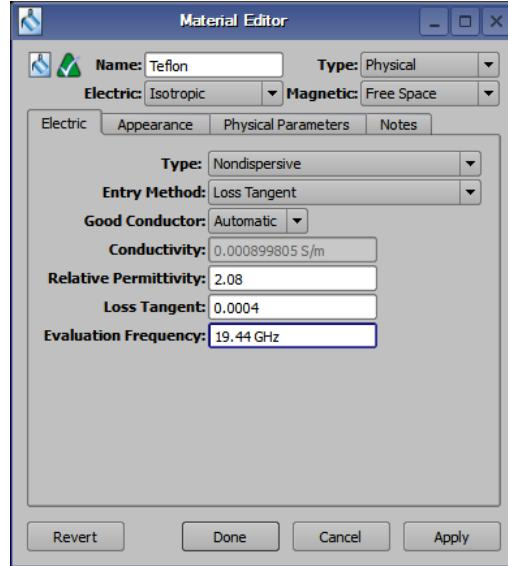

Figure 5.9: Material Properties of Teflon
- Fill in the values for RELATIVE PERMITTIVITY of “2.08”, LOSS TANGENT of “0.0004” and EVALUATION FREQUENCY of “19.44 GHz”. This should match Figure 5.9.